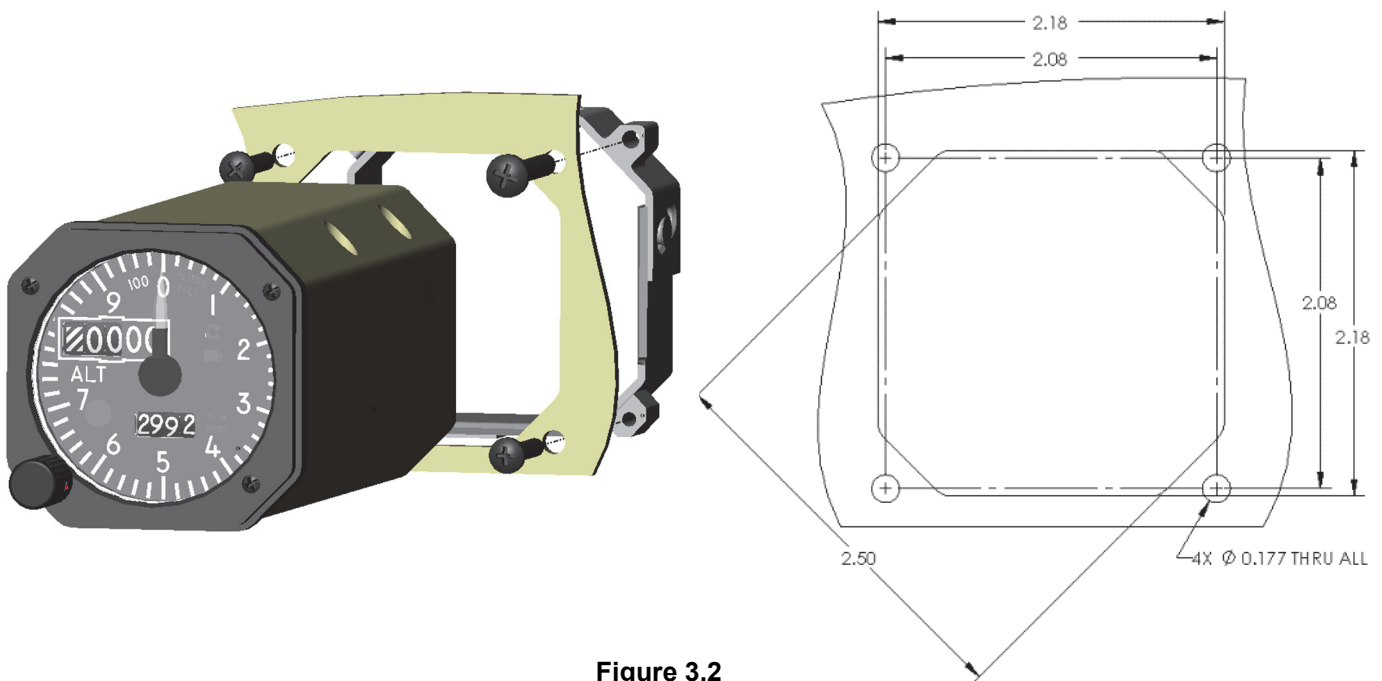

Figure 3.2
1. Ensure the available instrument panel cutout meets the requirements of the indicator. See Figure 3.2.